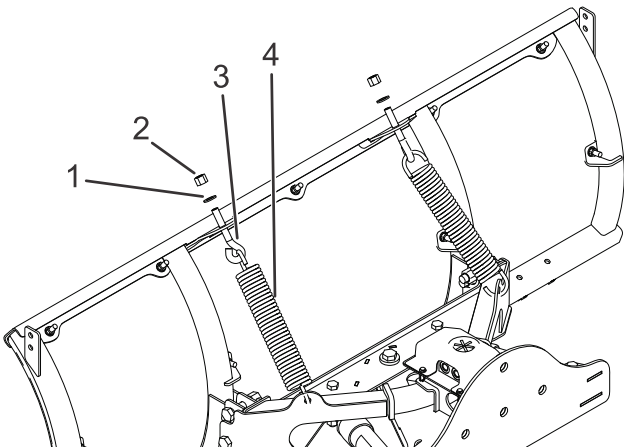

Figure 12
- 4. Hook the 2 trip springs through the holes on the push frame (Figure 12).
- 5. Hook the other ends of the trip springs to 2 eyebolts (Figure 12).
using 2 washers (1/2 inch) and nylon locknuts (Figure 12).